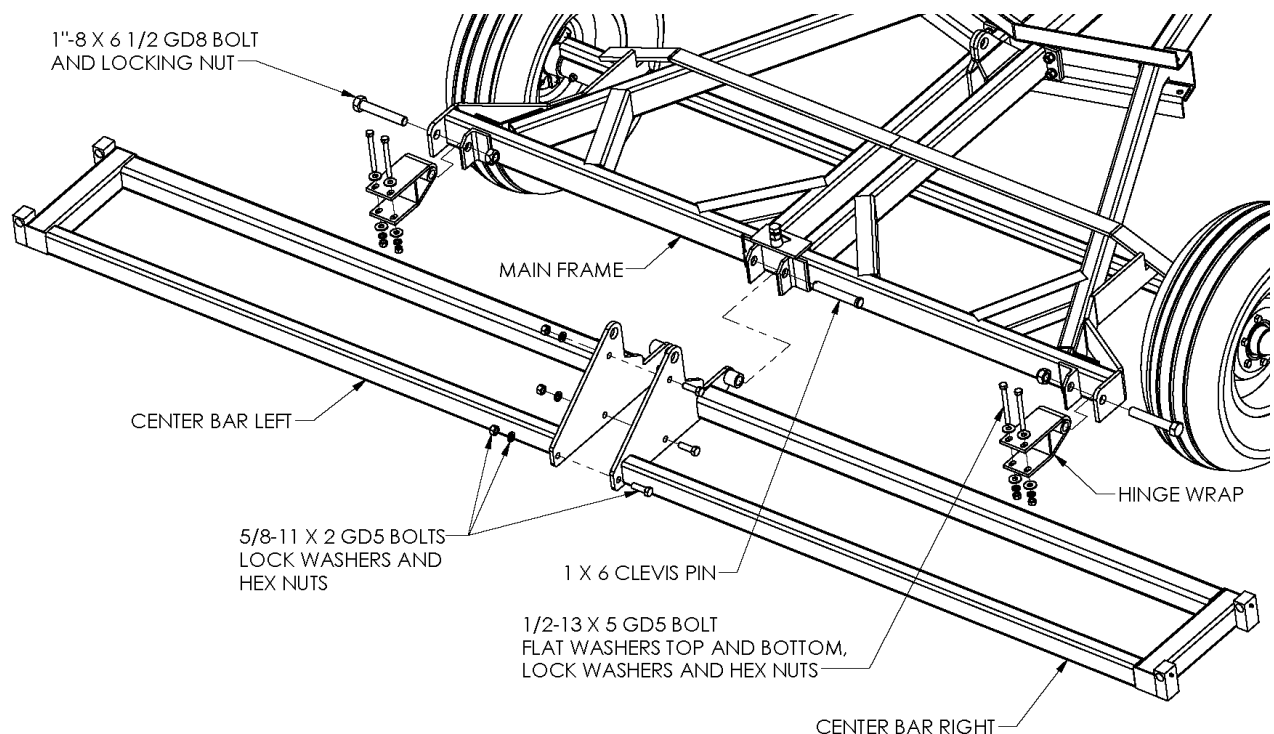

Figure 7
1. The center bar is shipped in two pieces. Bolt the halves together using four 5/8" x 2" bolts, lock washers, and hex nuts. Refer to Figure 7. Check the alignment of the halves before completely tightening the bolts.